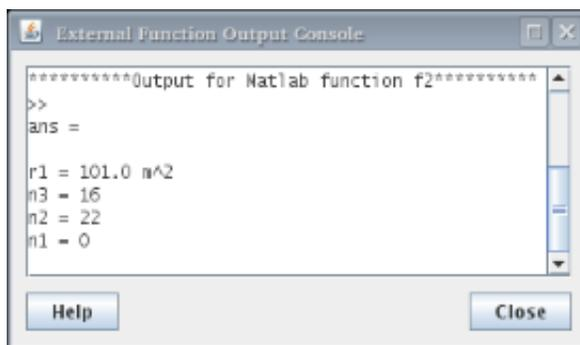

Figure 2.54. External Function Output Console
Some functions include a *Show Console* property. When activated, the external function console will be displayed. All output from the external applications (or Python execution) will be displayed in the console as shown in Figure 2.54, “External Function Output Console”.
- **Show Console** - this property, when selected, gathers all output from the external applications (or Python execution) and displays it in a pop-up dialog when the function has completed execution, as shown in Figure 2.54, “External Function Output Console”.
- **Show Console** - This property, when set to True, gathers all output from the external applications (or Python execution) and displays it in a pop-up dialog when the function has completed execution, as shown in Figure 2.54, “External Function Output Console”.